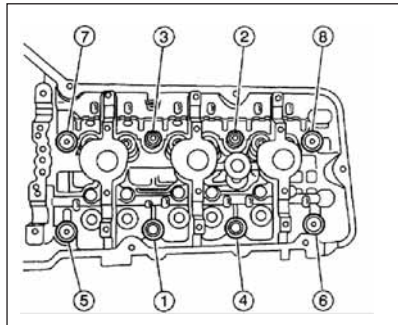

Figure 4 GM 3.5L cylinder head M11 bolt torque sequence
1) Align the cylinder head with the deck face locating pins (**Figure 4**, page 10, left side shown, right side similar).